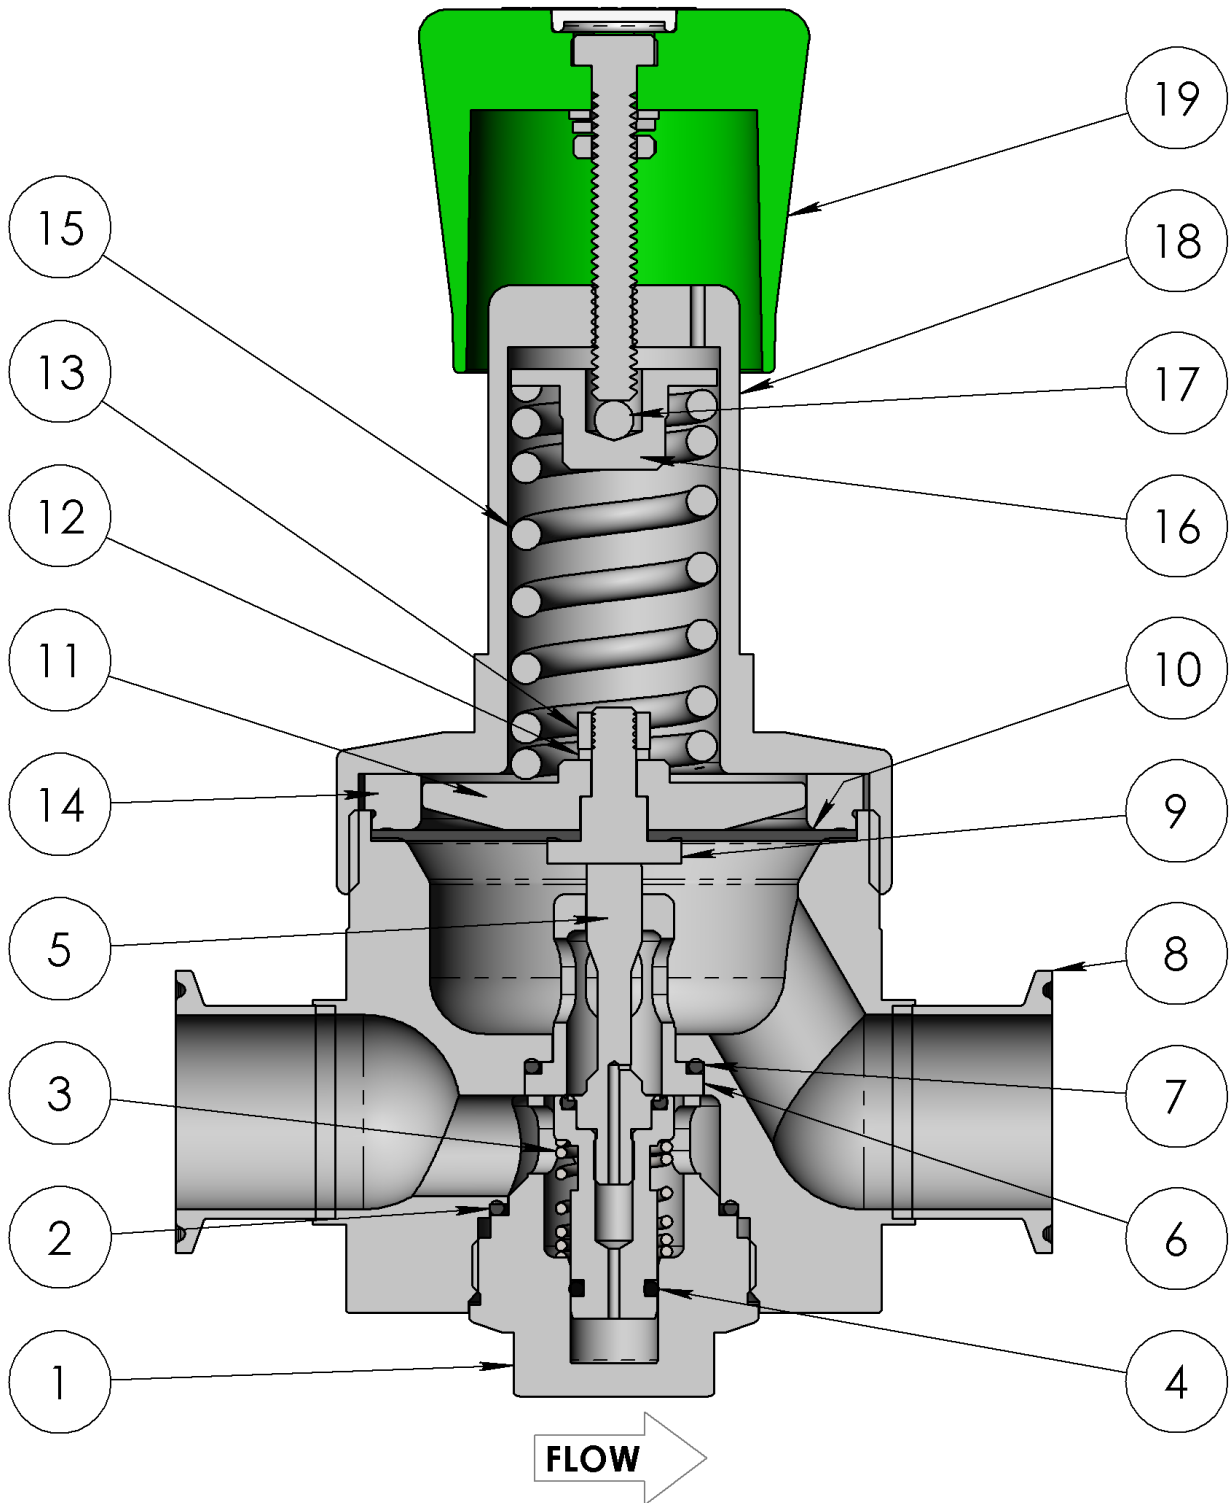

Fig 2
- The preferred mounting position of the regulator is horizontal with the spring housing facing upwards per Fig 2. Alternative mounting positions may increase the risk of component wear.
2. Fit the seat O-ring (7) onto the seat (6).
3. Insert the seat (6) into the body (8).
4. Fit the poppet O-ring (4) onto the poppet (5).
5. Lightly lubricate the poppet O-ring (4).
6. Fit the poppet spring (3) onto the poppet (5) and insert the poppet (5) through the seat (6).
7. Fit the body plug O-ring (2) into the body (8).
8. Lightly lubricate the body plug threads (1) and assemble over the poppet (5) into the body (8). Torque to 37 lbf·ft (50 N·m).
9. Fit the diaphragm (10) and bottom spring guide (11) onto the diaphragm screw (9).
10. Lightly lubricate the diaphragm screw threads (9) then fit the washer (12) and nut (13). Torque to 11 lbf·ft (15 N·m).
11. Insert the sensing assembly into the body (8).
12. Fit the clamp ring (14) into the body (8) on top of the diaphragm (10). Orient per Fig 2.
13. Fit the ball (17) into the spring guide (16) and retain in place.
14. Stack the set spring (15) and spring guide (16) onto the bottom spring guide (11).
15. Lightly lubricate the spring housing threads (18) then screw it onto the body (8). Torque to 37 lbf·ft (50 N·m).
16. Lightly lubricate the knob assembly stem (19) and thread it through the spring housing (18).